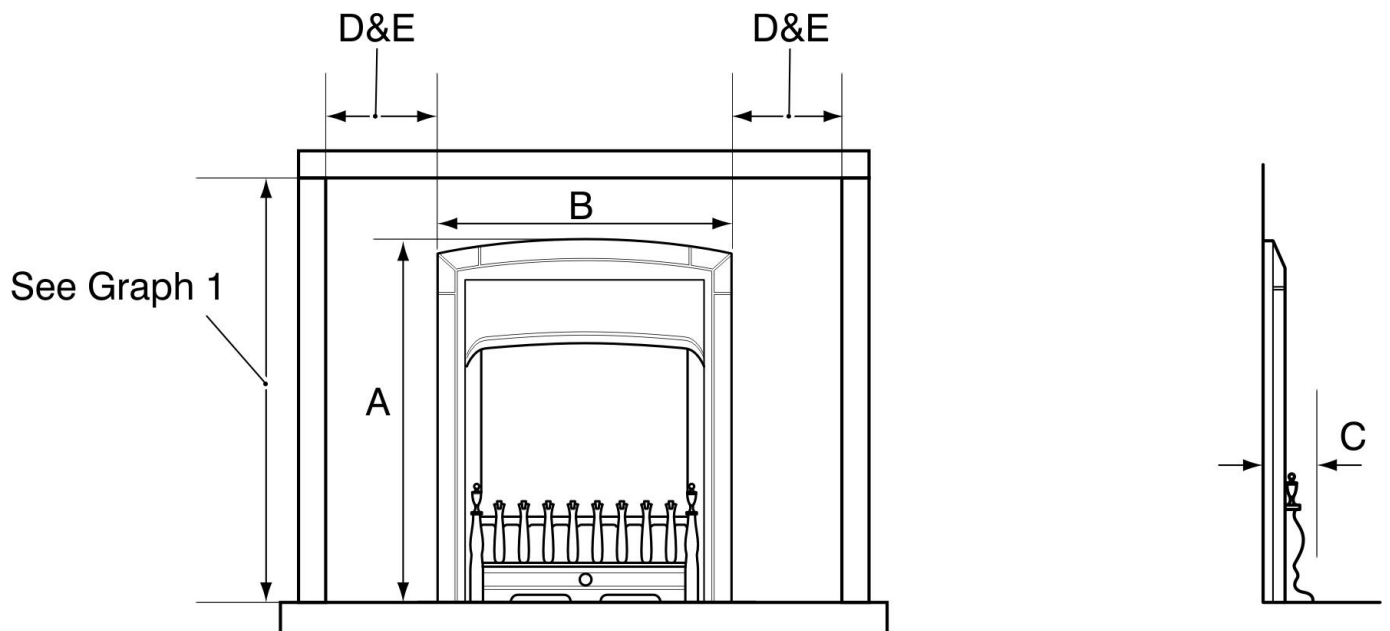

Figure 1. Appliance dimensions and clearances (Fascia may differ from that shown)
**Do** provide a minimum side clearance as detailed in figure 1. Please bear this in mind if ever you are altering the room.